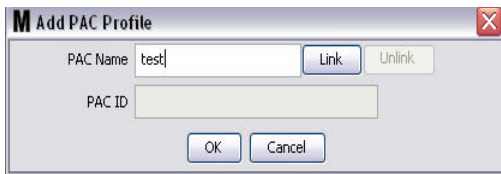

FIG. 126
3. The Add PAC Profile screen is shown in FIG. 126. On this screen you are prompted to name the PAC. After you type the name of the PAC in the field, click OK to close the screen and save the changes.